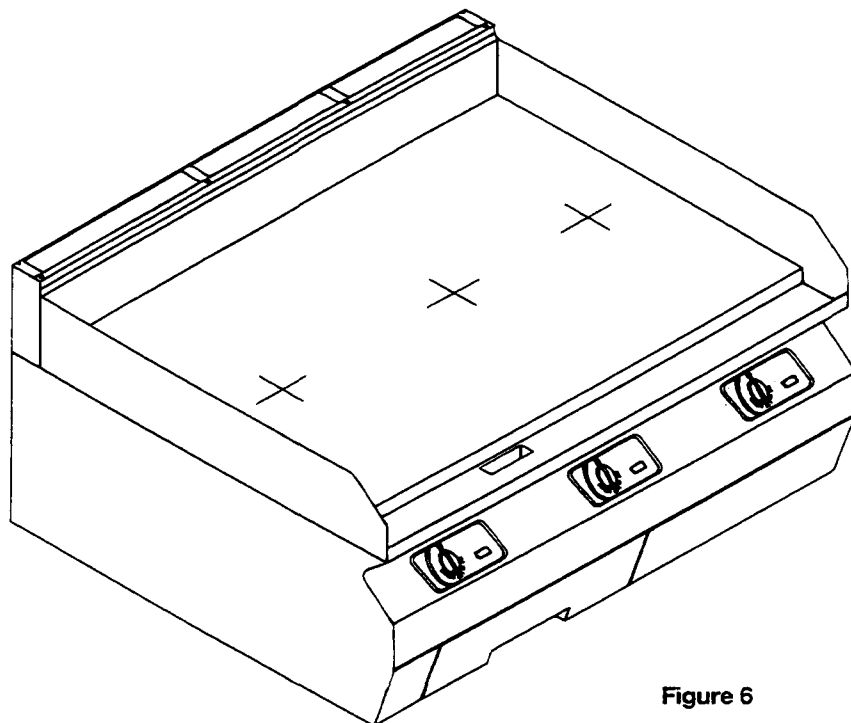

Figure 6
2. After burners have been on a minimum of 1 hour (if cold or 30 minutes if already hot when set at 300°F) place a reliable thermometer or thermocouple with test instruments in the center of the griddle and over the center of each burner. See Figure 6.